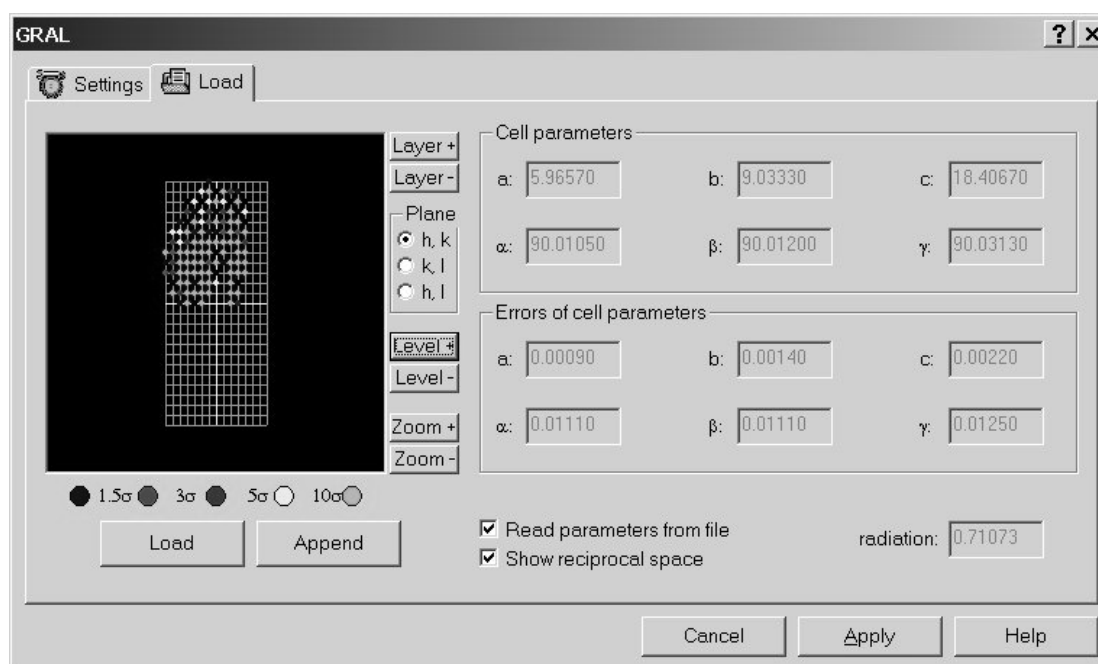

Figure 6.5.33 Screenshot of the GRAL plug-in Load Window (Reciprocal space visualiser)
3. Selecting the **Show reciprocal space** tick box provides a 2D view of reciprocal space and the distribution of data (by sigma) as depicted in Figure 6.5.33. This reciprocal space view can be adjusted by hkl planes and zoomed in and out.